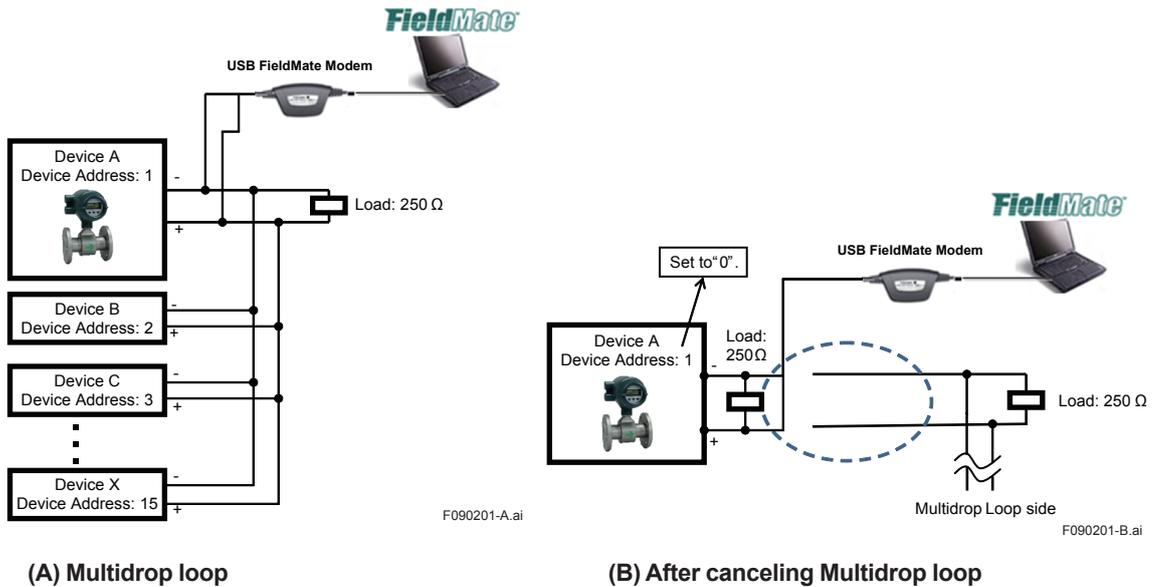

Figure 9.2.1 Configuration
- 2) Connect the AXF to FieldMate one to one. A load of 250Ω is required. See **Figure 9.2.1 (B)**.